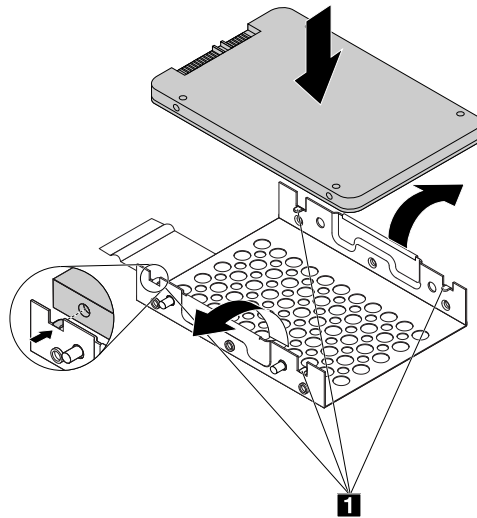

Figure 121. Installing the storage drive into the metal bracket of the converter
5. Install the new storage drive into the converter. See Figure 121 “Installing the storage drive into the metal bracket of the converter” on page 163.